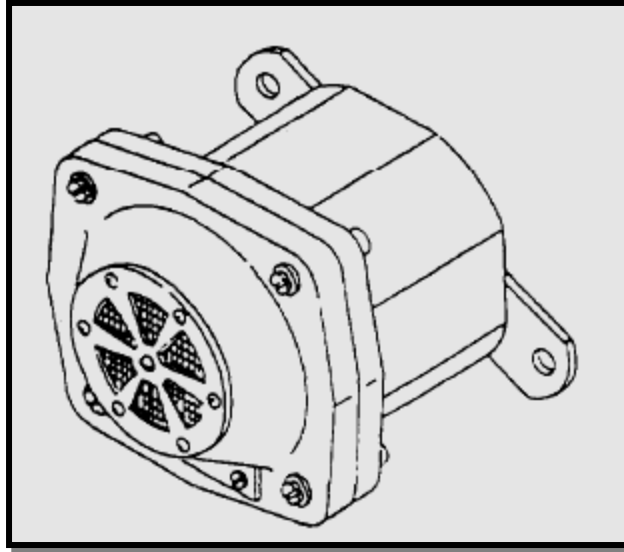

**Figure 5-30.—The TS-3687/WTC-2(V) telephone test set unit 7.**
**UNIT 7.**— Unit 7 (fig. 5-30) is used to test the terminal stations, it has the capability of testing the continuity of the station selector switches and associated wiring of the terminal stations. The test set is a portable bench top unit that mainly consists of an ON/OFF toggle switch, a transformer, and 24 light emitting diodes to test the continuity of the two station selector switches on the terminal stations.